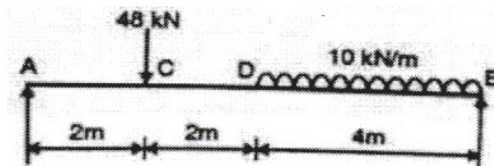

Figure 2
- b) For simply supported beam shown in figure 2. Find: [8]